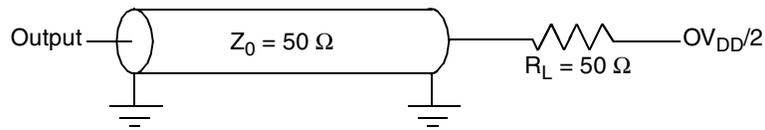
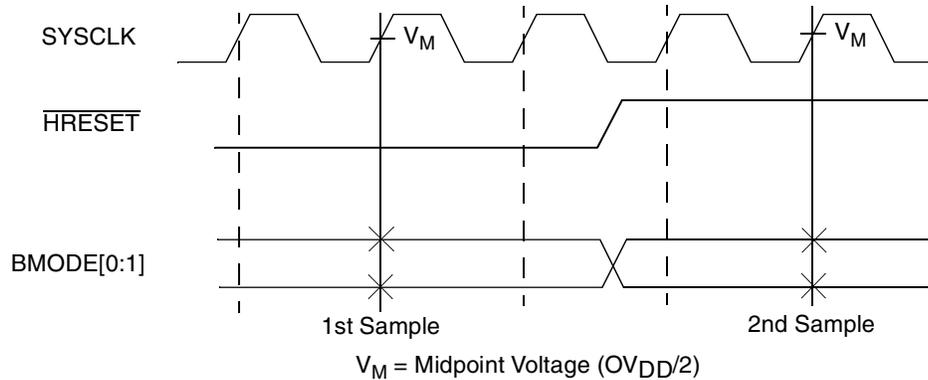
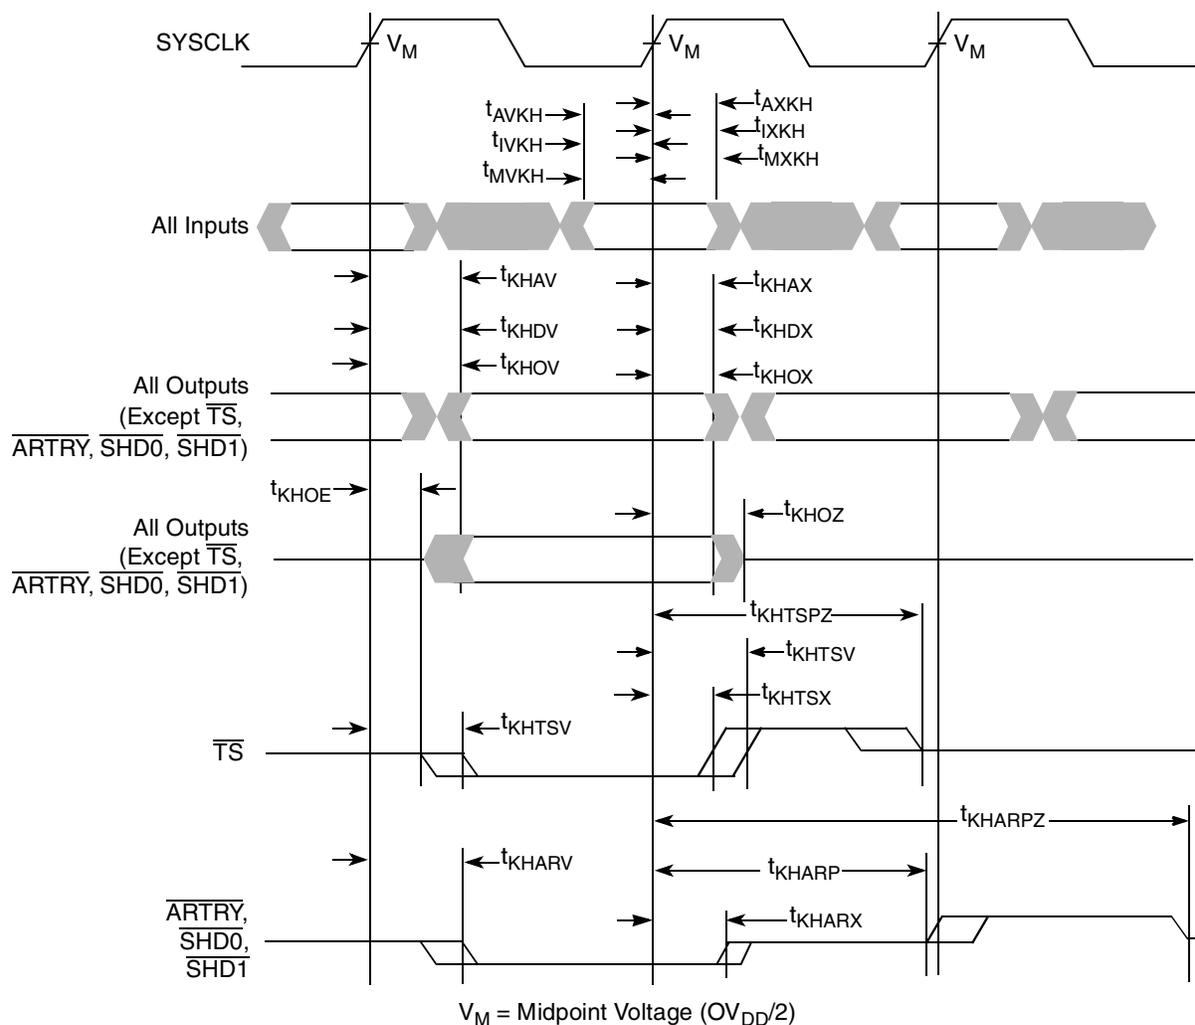

Figure 4. AC Test Load
Figure 5.  $\overline{\text{BMODE}}[0:1]$  Input Sample Timing Diagram
Figure 6. Input/Output Timing Diagram
Table 9 provides the processor bus AC timing specifications for the MPC7448 as defined in Figure 4 and Figure 5.
- All input specifications are measured from the midpoint of the signal in question to the midpoint of the rising edge of the input SYSClk. All output specifications are measured from the midpoint of the rising edge of SYSClk to the midpoint of the signal in question. All output timings assume a purely resistive 50-Ω load (see Figure 4). Input and output timings are measured at the pin; time-of-flight delays must be added for trace lengths, vias, and connectors in the system.
- The symbology used for timing specifications herein follows the pattern of  $t_{(signal)(state)(reference)(state)}$  for inputs and  $t_{(reference)(state)(signal)(state)}$  for outputs. For example,  $t_{VKH}$  symbolizes the time input signals (I) reach the valid state (V) relative to the SYSClk reference (K) going to the high (H) state or input setup time. And  $t_{KHOV}$  symbolizes the time from SYSClk(K) going high (H) until outputs (O) are valid (V) or output valid time. Input hold time can be read as the time that the input signal (I) went invalid (X) with respect to the rising clock edge (KH) (note the position of the reference and its state for inputs) and output hold time can be read as the time from the rising edge (KH) until the output went invalid (OX).
- According to the bus protocol,  $\overline{TS}$  is driven only by the currently active bus master. It is asserted low and precharged high before returning to high impedance, as shown in Figure 6. The nominal precharge width for  $\overline{TS}$  is  $t_{SYSClk}$ , that is, one clock period. Since no master can assert  $\overline{TS}$  on the following clock edge, there is no concern regarding contention with the precharge. Output valid and output hold timing is tested for the signal asserted. Output valid time is tested for precharge. The high-impedance behavior is guaranteed by design.
- According to the bus protocol,  $\overline{ARTRY}$  can be driven by multiple bus masters through the clock period immediately following  $\overline{AACK}$ . Bus contention is not an issue because any master asserting  $\overline{ARTRY}$  will be driving it low. Any master asserting it low in the first clock following  $\overline{AACK}$  will then go to high impedance for a fraction of a cycle, then negated for up to an entire cycle (crossing a bus cycle boundary) before being three-stated again. The nominal precharge width for  $\overline{ARTRY}$  is  $1.0 t_{SYSClk}$ ; that is, it should be high impedance as shown in Figure 6 before the first opportunity for another master to assert  $\overline{ARTRY}$ . Output valid and output hold timing is tested for the signal asserted. The high-impedance behavior is guaranteed by design.
- $\overline{BMODE}[0:1]$  and  $BVSEL[0:1]$  are mode select inputs.  $\overline{BMODE}[0:1]$  are sampled before and after  $\overline{HRESET}$  negation.  $BVSEL[0:1]$  are sampled before  $\overline{HRESET}$  negation. These parameters represent the input setup and hold times for each sample. These values are guaranteed by design and not tested.  $\overline{BMODE}[0:1]$  must remain stable after the second sample;  $BVSEL[0:1]$  must remain stable after the first (and only) sample. See Figure 5 for sample timing.
Figure 4 provides the AC test load for the MPC7448.
Figure 5 provides the  $\overline{\text{BMODE}}[0:1]$  input timing diagram for the MPC7448. These mode select inputs are sampled once before and once after  $\overline{\text{HRESET}}$  negation.
Figure 6 provides the input/output timing diagram for the MPC7448.